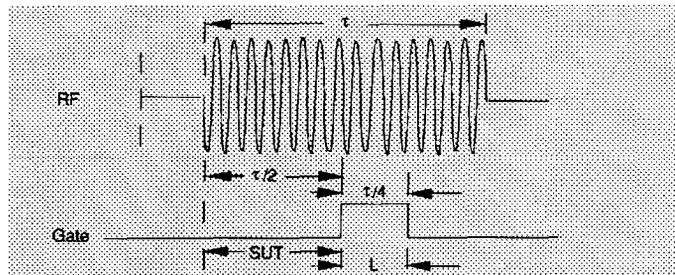

Figure 2-73. Positioning the Gate
In Figure 2-73, the parameters are:
Generally, you should position the gate over a part of the signal that is stable, not over a pulse edge or other transition that might disturb the spectrum. Starting the gate at the center of the pulse gives a setup time of about half the pulse width. Setup time describes the length of time during which that signal is present and stable before the gate comes on. Generally, you should maximize the setup time (SUT). Signal delay (SD) is the delay inherent in the signal; that is, SD is the length of time after the trigger, but before the signal of interest occurs and becomes stable. If the trigger occurs simultaneously with the signal of interest, SD is equal to zero, and SUT is equal to the gate delay. Otherwise, SUT is equal to the gate delay minus SD. See Figure 2-73.